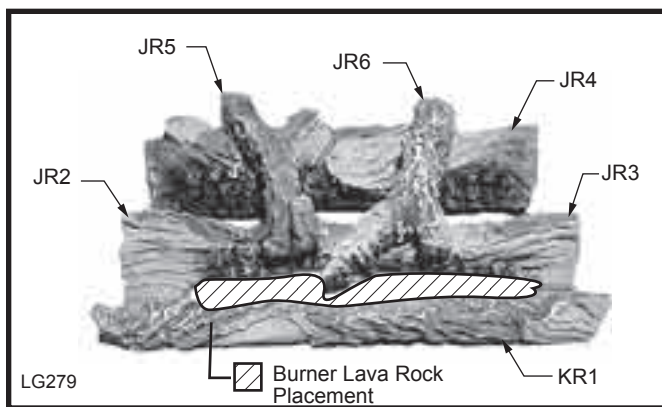

Fig. 17 RHE25 log and lava rock placement.
7. Place burner lava rock material on top of burner. (Refer to Figs. 17, 18 & 19 for proper location).